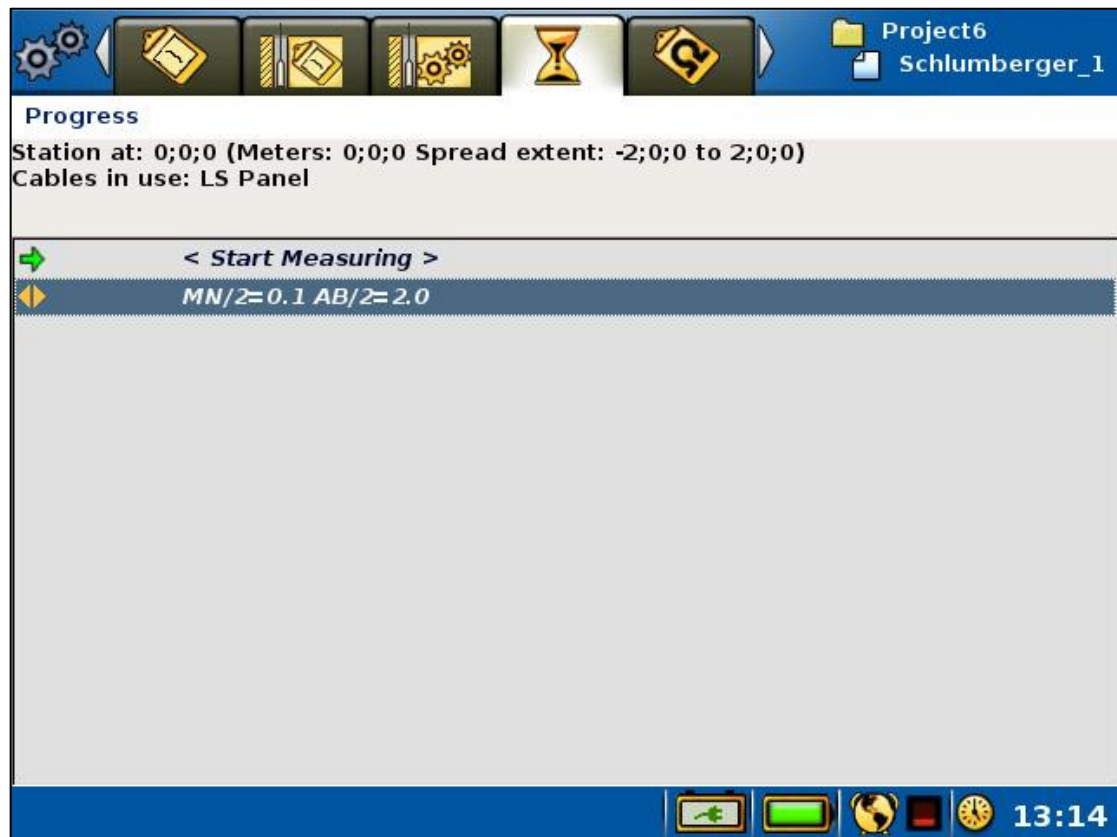
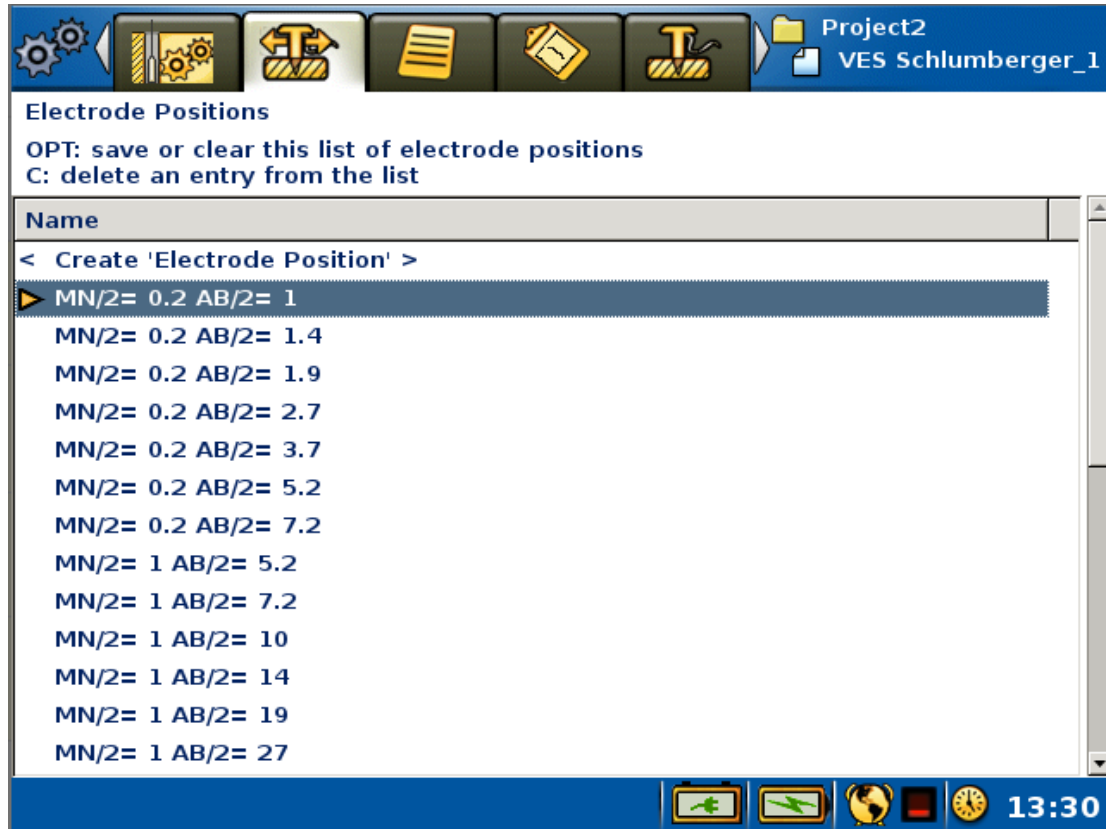

Figure 52 The Progress Page in VES mode
Figure 53 *Electrode Positions Page in VES mode. Highlight bar (blue) and active electrode position marker (yellow) both on the second row*
- The “*Measure/Progress*” *Page* (Figure 52) will be used to start and stop measurements as usual. Choosing which of the predefined electrode positions to measure from can also be set from this *Page*.
- The “*Measure/Electrode Positions*” *Page* (Figure 53) displays a list of all the possible electrode positions that are predefined in the active *Task*. The electrode positions can be set manually (and a new temporary electrode position created) from this *Page*.
In VES mode, with a Schlumberger protocol selected, a line with a “MN/2 and AB/2” electrode position will be shown on the *Progress Page* (Figure 52). This is the active electrode position, and it can be changed using the left and right arrows. It is thus possible to step through all available electrode positions that are pre-defined in the protocol file; measurements do not necessarily need to be undertaken at every interval.
The *Electrode Positions Page* (Figure 53) lists all the electrode positions from the protocol file. The yellow arrow is placed on the line that corresponds to the active electrode position. This electrode position is the one that is shown on the second row of the *Progress Page* (Figure 52). The *Electrode Positions Page* will be empty when the instrument is not in VES mode.
- Navigate to the “Measure/Electrode Positions” Page (Figure 53)